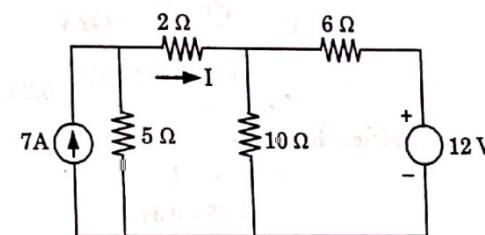

Fig. 2.
a. Find current through 2Ω resistance using superposition theorem in Fig. 2.